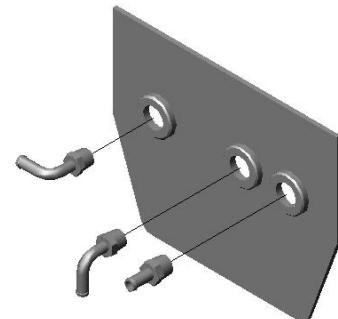

Figure 1
- c. Install the 3 supplied 1/8" NPT fittings in rear of intake (see Figure 1 below). From left to right (when viewing from the back of the intake) install the two 90 degree fittings first. The left fitting should point to the left. The center fitting should point down. The straight fitting should be installed on the far right.